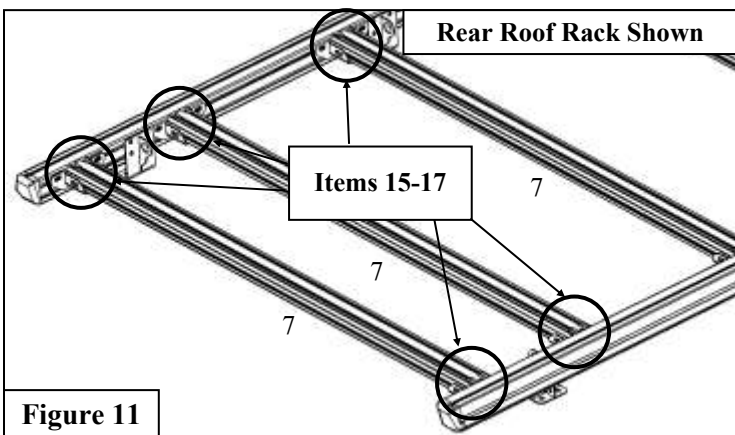

Figure 11
12. Using the M6 Hardware (**Items 15-17**) loosely secure the Cross Bar Rails (**Item 7**) to the Cross Bar Brackets (**Item 8**). See **Figure 11** for reference.